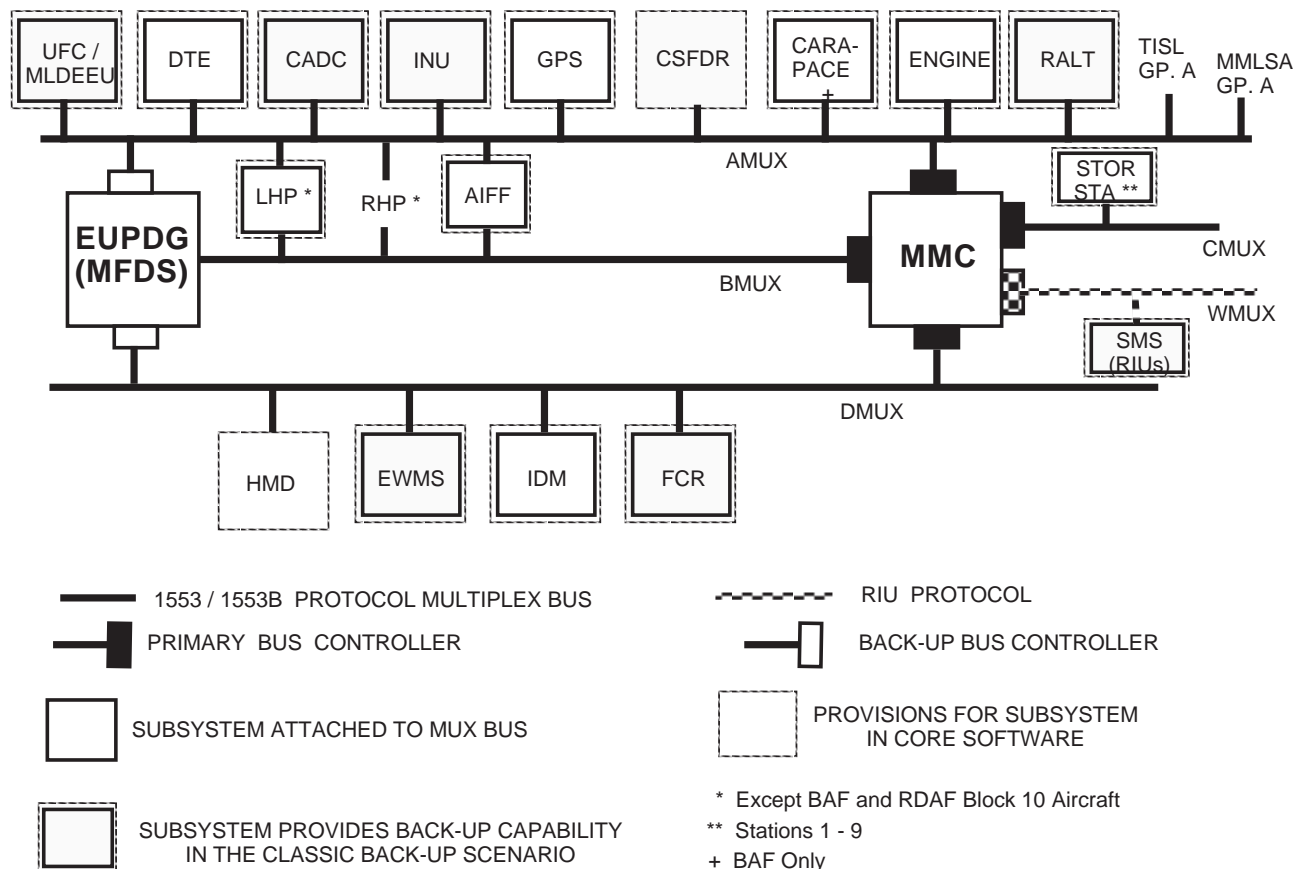
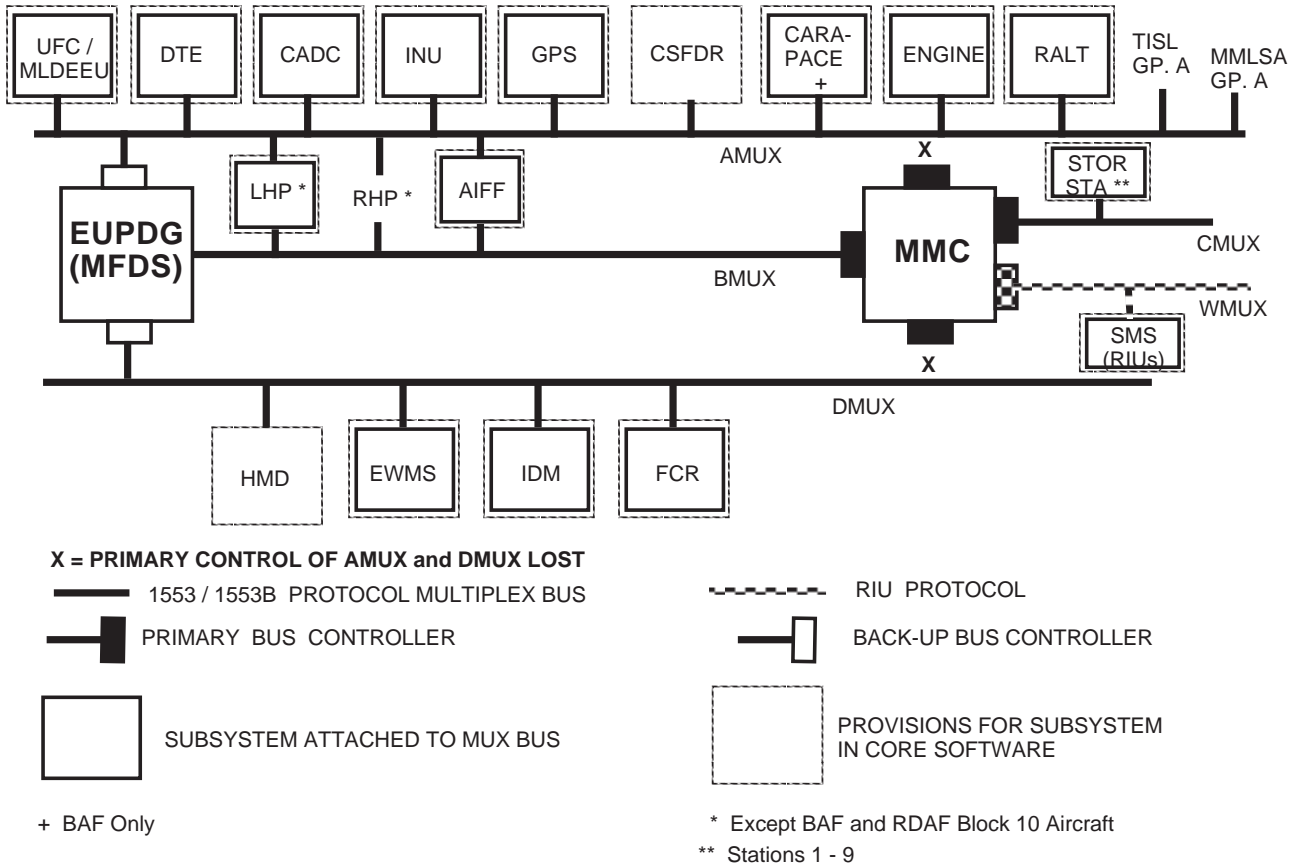

Figure 8-1 MLU Avionic Mux Bus Architecture---Normal MMC Operation
Figure 8-2 MLU Mux Architecture with EUPDG Providing Back-Up Control of the AMUX and the DMUX
- 1) Buses and Bus Control: The MLU avionics system architecture is based on five multiplex buses (AMUX, BMUX, CMUX, DMUX, and WMUX) as shown in Figure 8-1. Each bus has dual-redundant transmission channels that enable continued communication among subsystems in the event of a single transmission channel failure. As the primary controller of each of the buses, the MMC integrates and coordinates aircraft display formats, sensors, and master modes with associated systems processing functions. In the event of MMC bus control failure, the Enhanced Upgraded Programmable Display Generator (EUPDG) would provide back-up bus control for the AMUX and DMUX (Figure 8-2) to give the pilot a basic self defense and get home navigation capability. Due to design and cost considerations, back-up capability was not provided to the